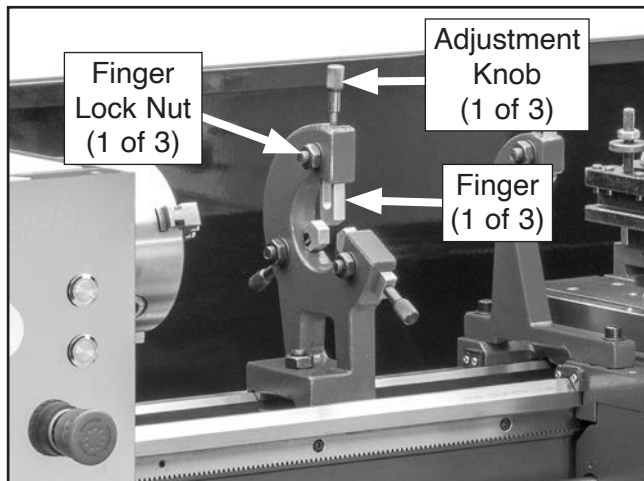

Figure 59. Steady rest components.
3. Loosen (3) finger lock nuts so finger positions can be adjusted (see **Figure 59**).